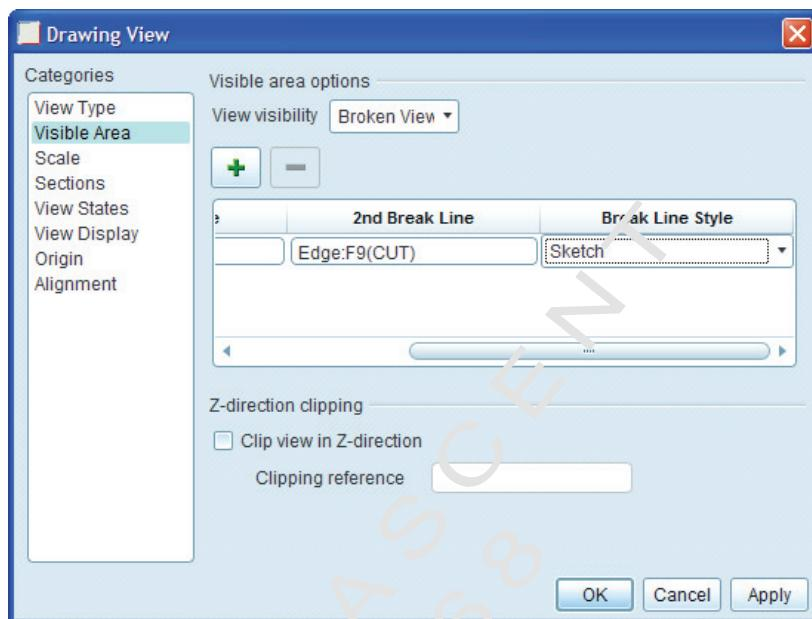

Figure 1–100
9. Sketch the spline shown in Figure 1–101 to represent the break line for the view. Press the middle mouse button to complete the spline.